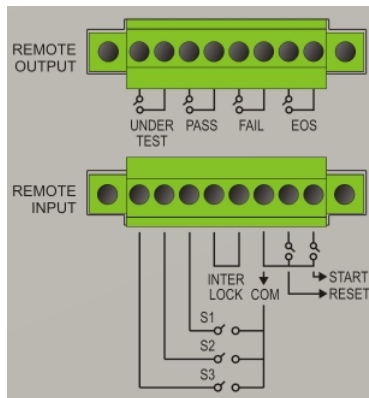

Figure 4-22
5. Pin diagram of REMOTE CONTROL as Figure 4-22. When users desire to control by external, please remember this pin diagram.